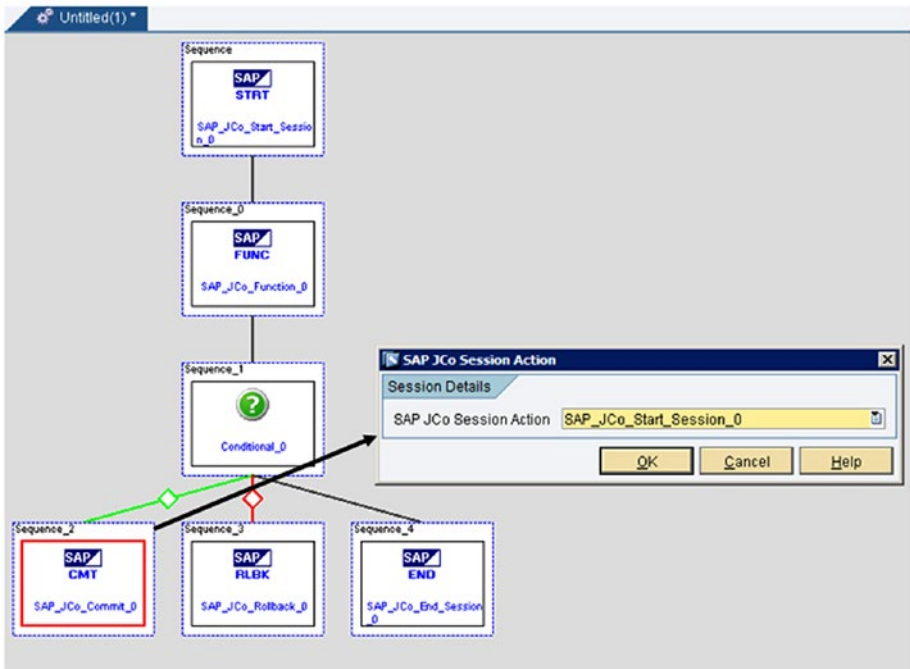

Figure 7-172. SAP JCo commit action block and its configuration
- *SAP JCo Commit*: This action performs a commit function during a session between SAP MII and SAP ERP Central Component (SAP ECC). See Figure 7-172.